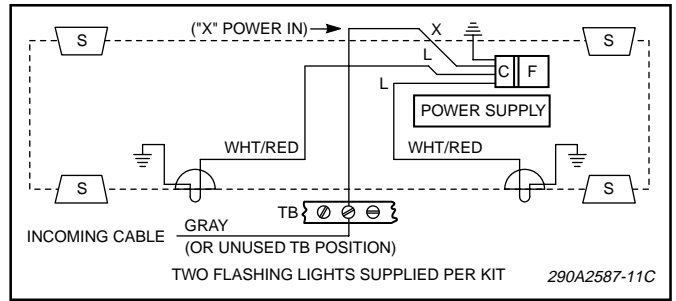

Figure 2.
5. See figure 2. Connect one end of the WHT/BLK wire to the flasher terminal marked "X". Connect the other end of the WHT/BLK wire to the terminal block position which connects to the incoming cable's gray wire. If the gray wire was used for another option, connect the wire to an unused terminal block position.
6. See figure 2. Connect the male terminal end of a supplied wire (white with red stripe) to the mating terminal at the side of a reflector assembly. Connect the female terminal on the wire's other end to a terminal marked "L" (on the flasher).
7. See figure 2. Connect the male terminal end of the other supplied wire (white with red stripe) to the mating terminal at the side of the other reflector assembly. Connect the female terminal on the wire's other end to the other flasher terminal marked "L" (on the flasher).